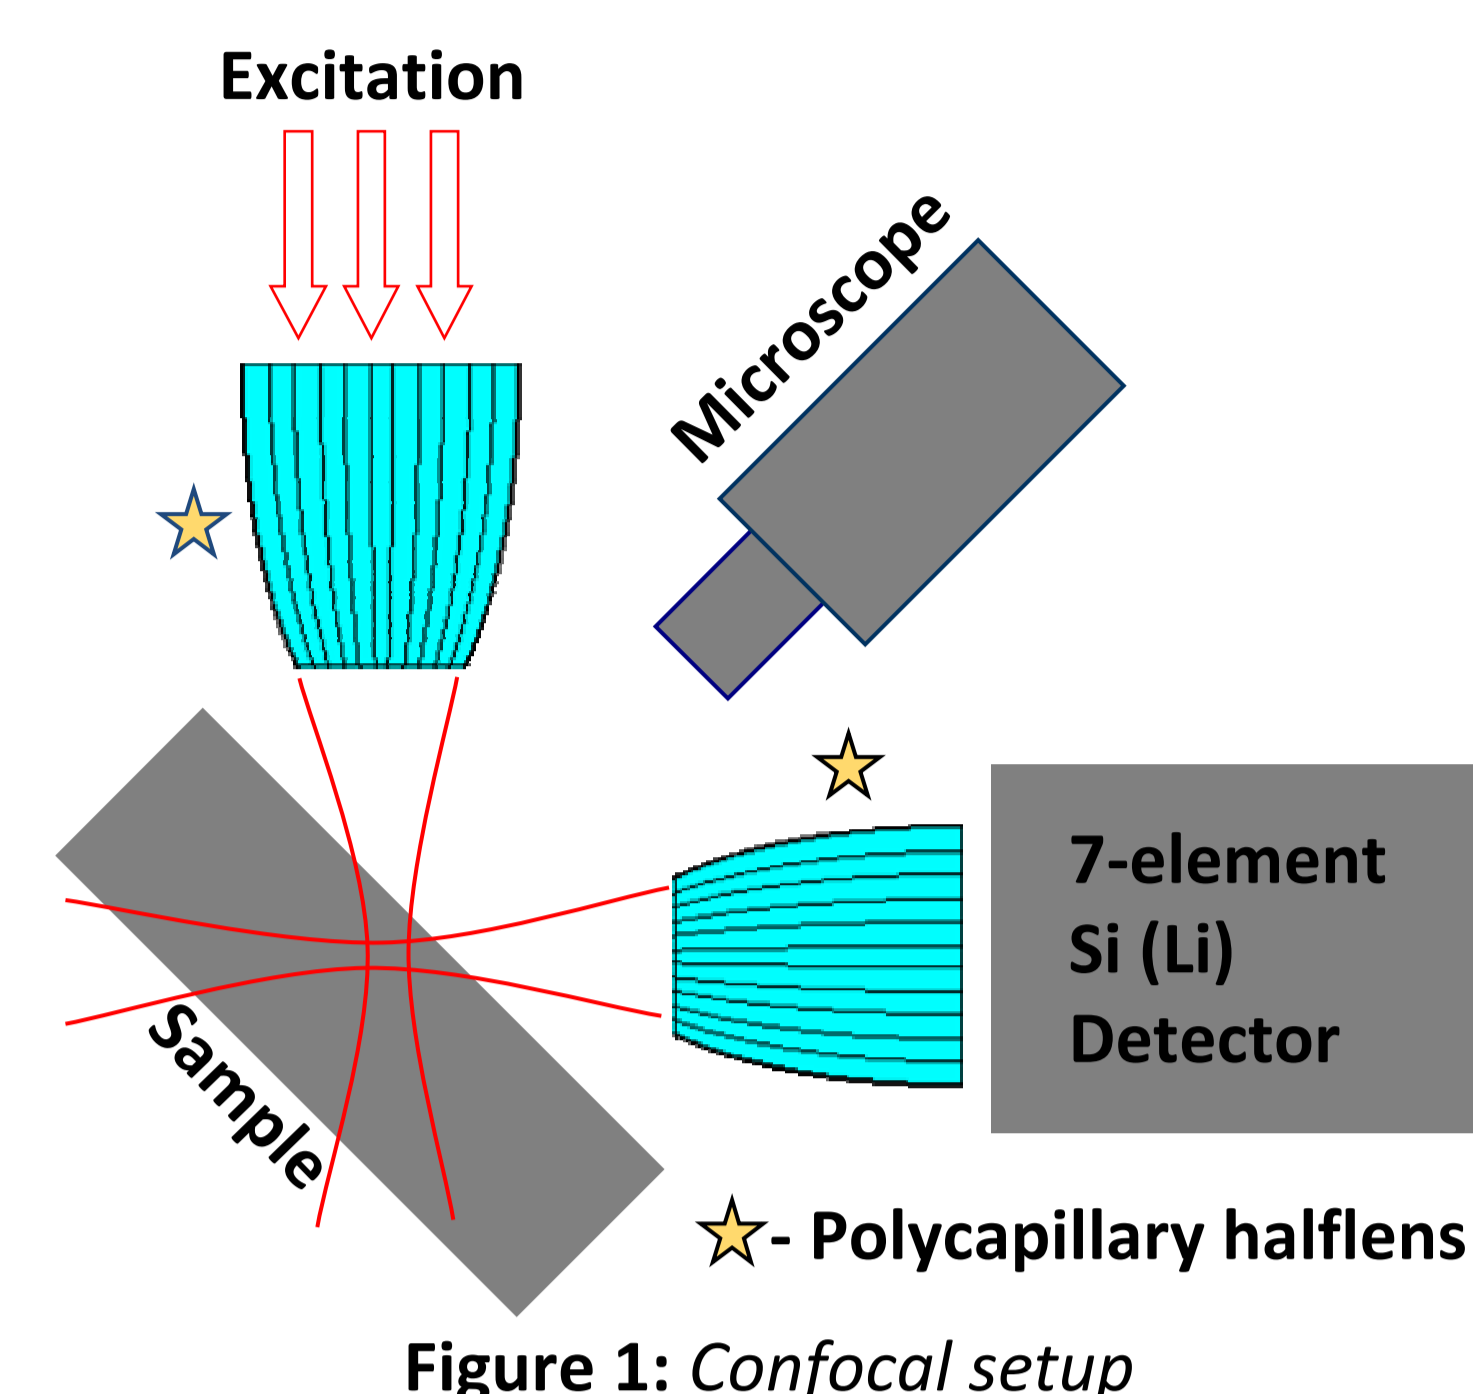

Figure 1: Confocal setup
- **Setup:** 3D Micro-XRF \rightarrow **Figure 1** (detailed description see 3D Micro-XANES poster)